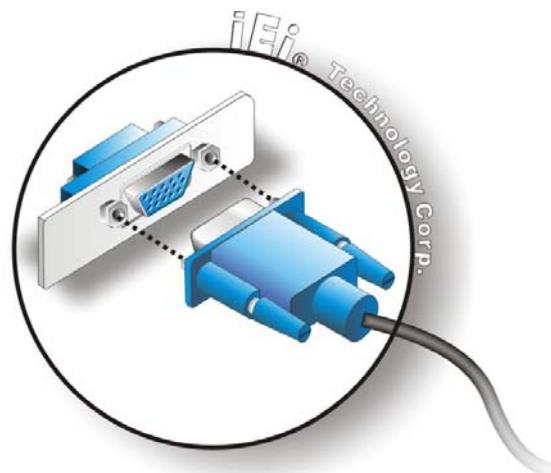

Figure 4-14: VGA Connector
Step 3: Insert the VGA connector Once the connectors are properly aligned with the insert the male connector from the VGA screen into the female connector on the PCISA-PV-D4251/N4551/D5251. See **Figure 4-14**.